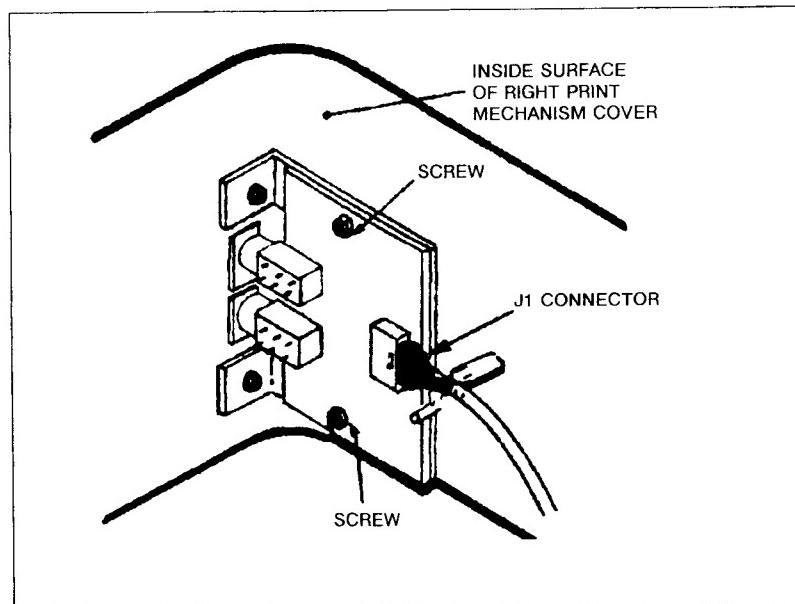

Figure 6-16. Upper Tractor Control PCA
- d. From the underside of the cover, use a 6mm wrench to remove the two nuts securing the PCA and the metal mounting bracket to the plastic cover (see Figure 6-16).
Reverse the above removal procedure to reassemble. Be sure to reassemble the PCA and bracket in the same position that it came off (see Figure 6-16). (It is possible to mount the assembly backwards). After replacement, test the keys to verify operation.
- a. Switch the printer offline and the ON/OFF switch to the OFF (0) position.
- c. Remove the four 2 mm Allen screws from the face of the lower tractor control key panel (see Figure 6-16).